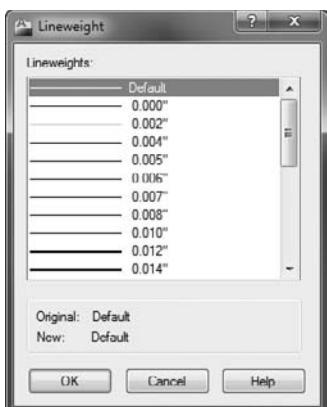

FIGURE 15.22 Assigning a linewidth in the Lineweight dialog box
4. In the Lineweight column of the Layer Properties Manager dialog box, click one of the highlighted Default words in the Lineweight column to open the Lineweight dialog box (see Figure 15.22).